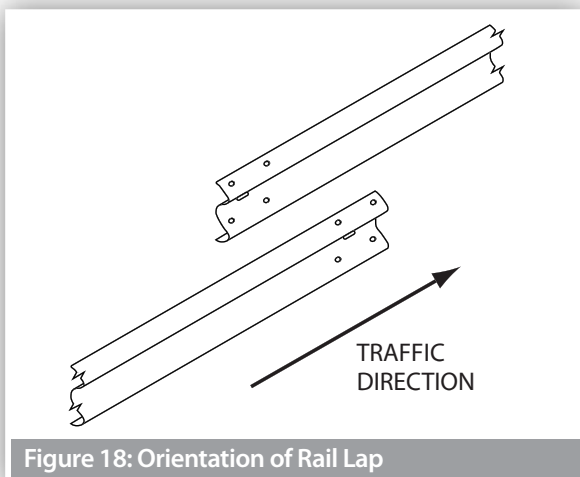

Figure 18: Orientation of Rail Lap
10. Rails are orientated so that no leading edge is presented to the traffic face as shown in Figure 18.
9. Rails are overlapped so that no leading edge is presented to the traffic face as shown in Figure 18.